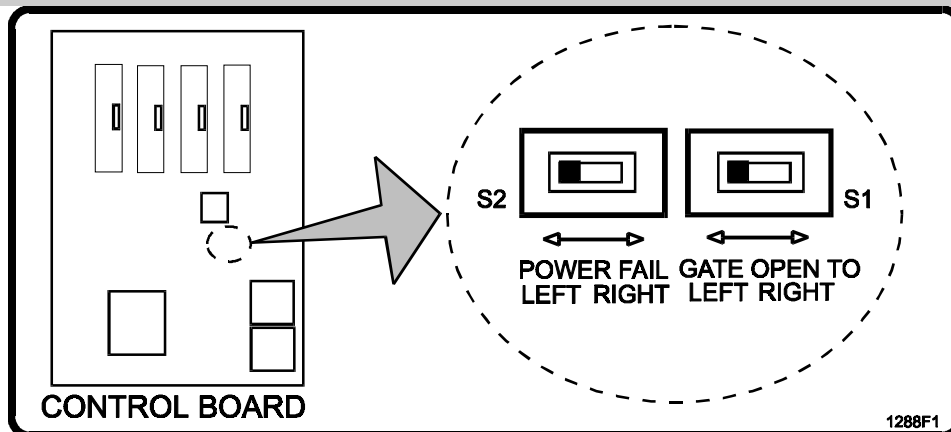

Figure 12. Gate Direction, Power Fail Option Switch Location.
1. Set Power Fail switch S2 to the same position as switch S1 (Figure 12).